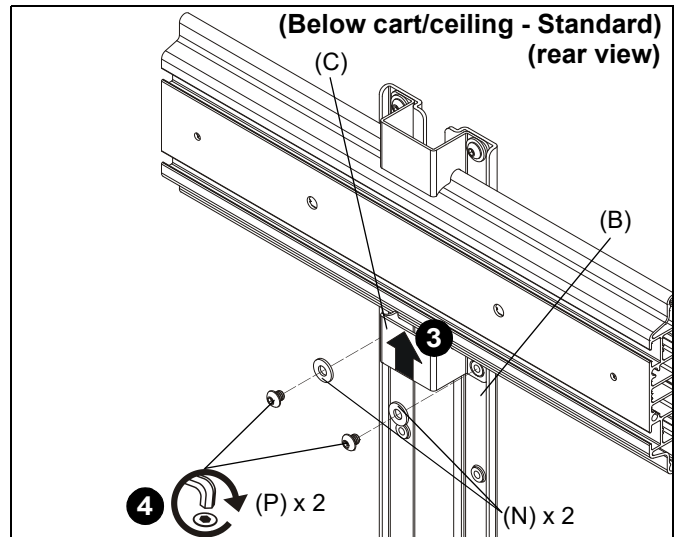

Figure 8
- Slide second shelf bracket (C) underneath head assembly, lining up holes on shelf bracket (C) to holes on main bracket (B). (See Figure 8)
- Use two 1/4-20 x 1/4" button head cap screws (P) and two large washers (N) to secure shelf bracket (C) to main bracket (B). (See Figure 8)